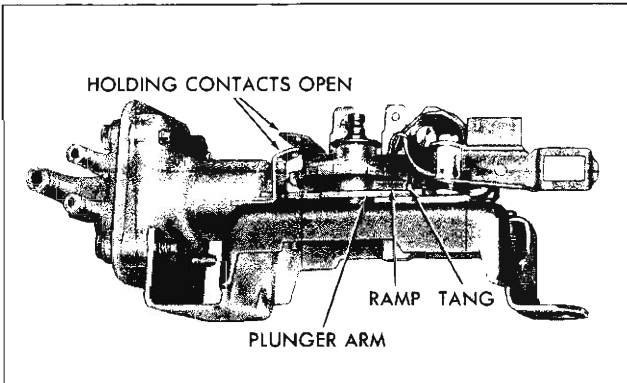

Fig. 71—Releasing Pump From Lockout Position
- b. Manually operate pump clockwise to release pump from "lock-out" position (fig. 71).